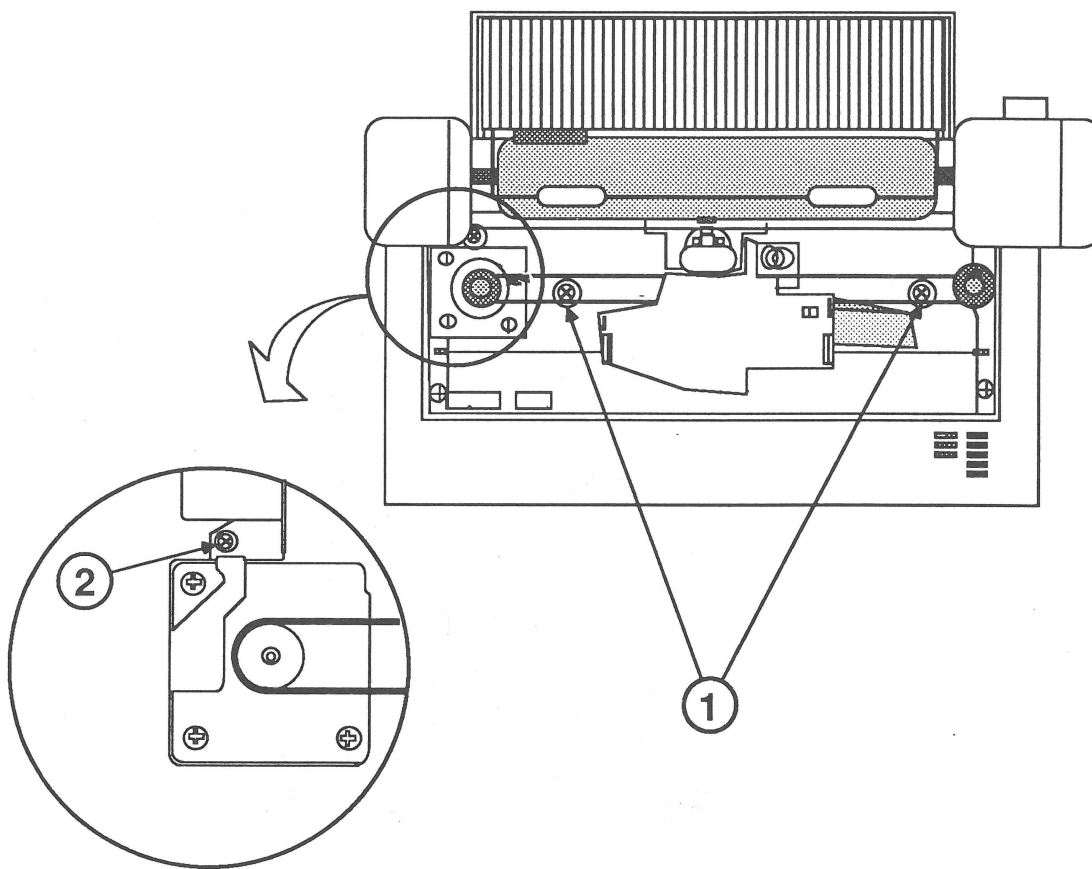

FIGURE 52
8. Replace the two large screws (Figure 52, #1) that hold the frame to the plastic portion of the bottom cover.
9. If the screw exists (it doesn't on earlier models), replace the frame screw (Figure 52, #2) between the stepper motor and carrier motor housing.